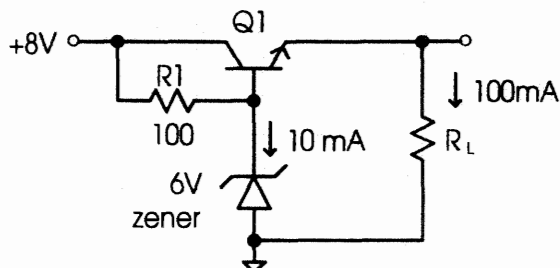

Figure 13–8.
- Q10.** Assume that the diode D1 of Figure 13–9 is ideal. Sketch the wave form of V_o .